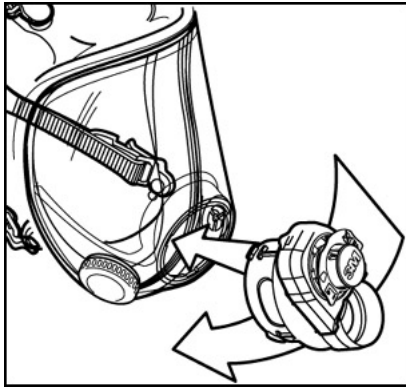

Fig. 12
3. Slide adapter into lens port. (Fig. 12)
5. Re-install center adapter and nose cup into facepiece lens. (Fig. 12)